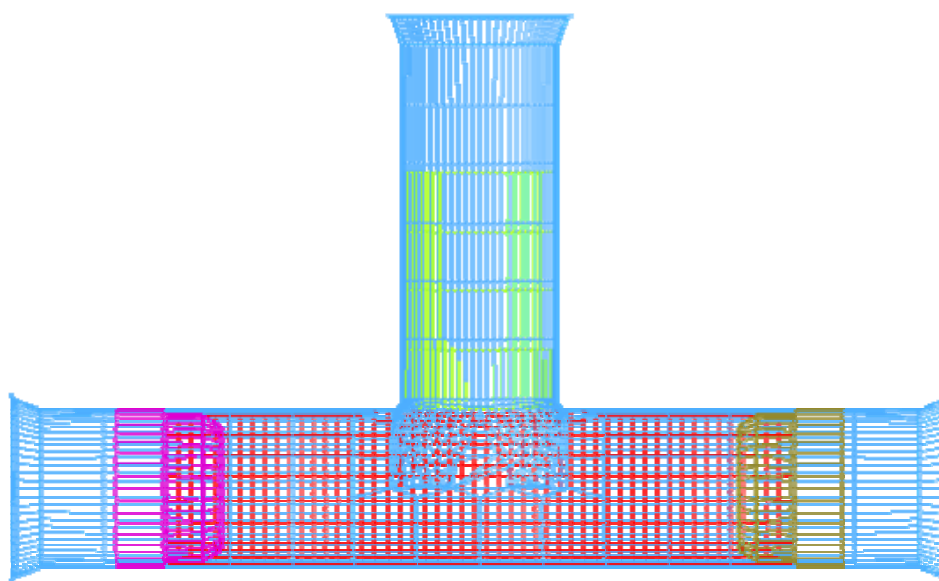

Figure 3.30 The relative position of tools and tube after positioning
6. Click  and  icon on the **Icon bar** to display the relative position of tools and tube, as shown in Figure 3.30.